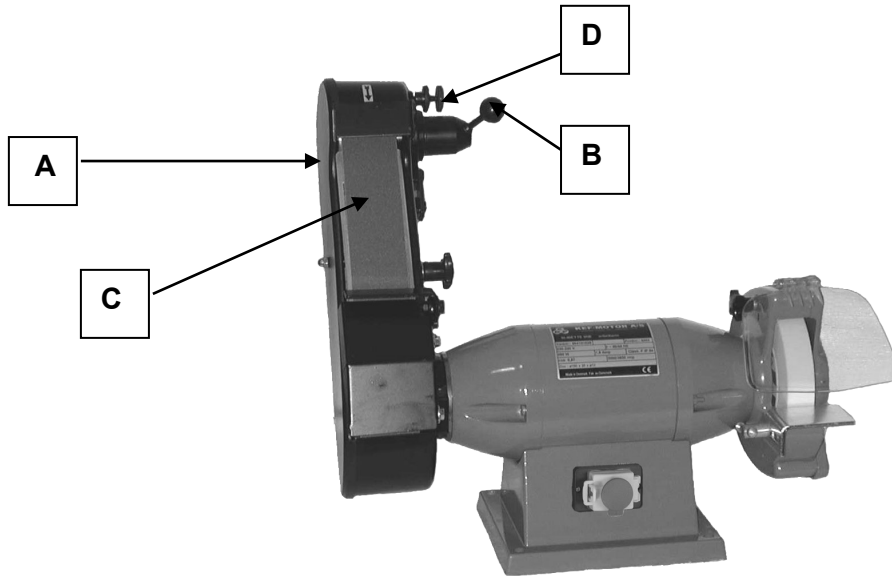

Fig.: 2.3.2
When the grinding belt has worn down it must be replaced, which is done in the following way: Remove the outer shield (A) (see *fig. 2.3.2*) of the casing and pull the handle (B) down. This releases the grinding belt (C), so it can be removed and replaced by a new one, which should be fitted in reverse order. Check that the direction of the arrows on the rear of the belt corresponds to the direction of rotation. Once the new grinding belt has been fitted, it is necessary to ensure a straight running action by adjusting the handle (D), which should be loosened until the grinding belt runs straight on the contact wheel. Then tighten the handle (B).